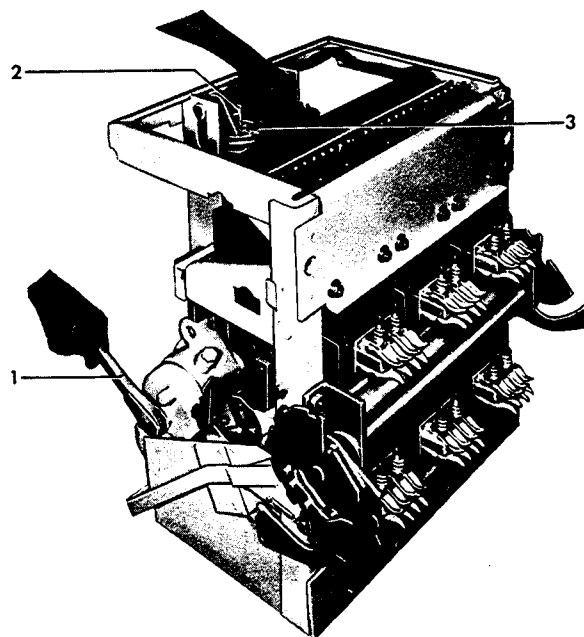

Fig. 3 (8039670) View showing operation of AK-2-50 breaker with manual maintenance handle and installation of safety pin
1. Charge the closing spring with the maintenance handle (1, Fig. 3) until the indicator reads "charged".
(Fig. 3)